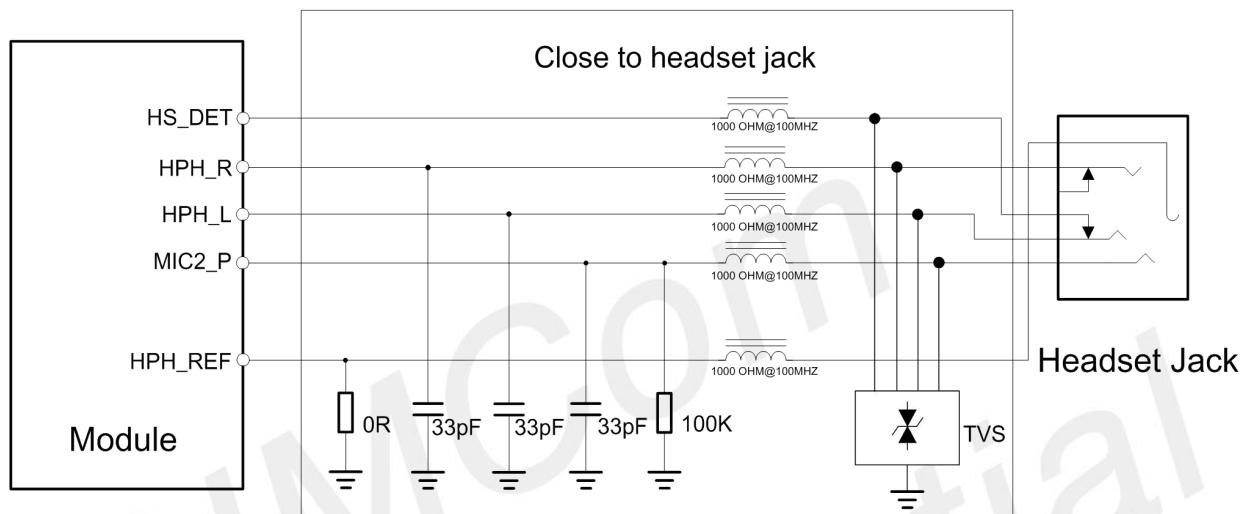

Figure 23: Headset reference circuit
A 100KΩ pull-down resistor is integrated at HPH_L pin, which could be used for mechanical insertion or removal detection through HS_DET pin. Figure 23 shows the reference circuit for normally-closed (NC) type headset jack.